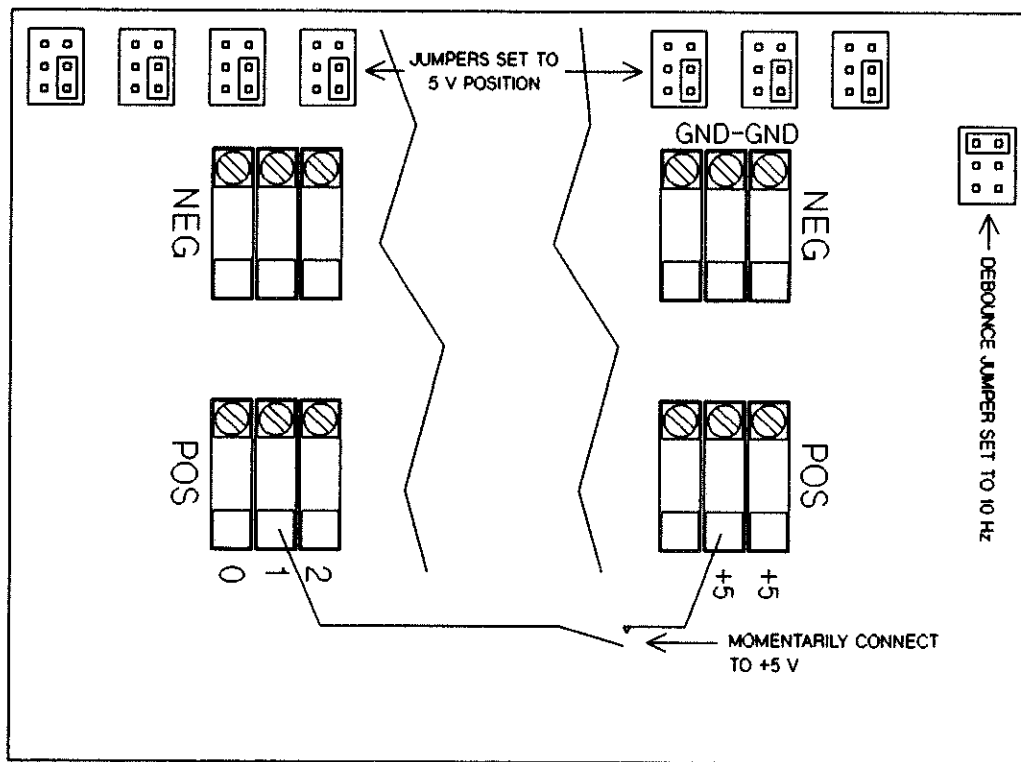

Figure 12-10 Interrupt Test
4. Refer to Figure 12-10. With a jumper, momentarily connect the shorted even numbered channels POS (positive) connections to the +5 V connection.